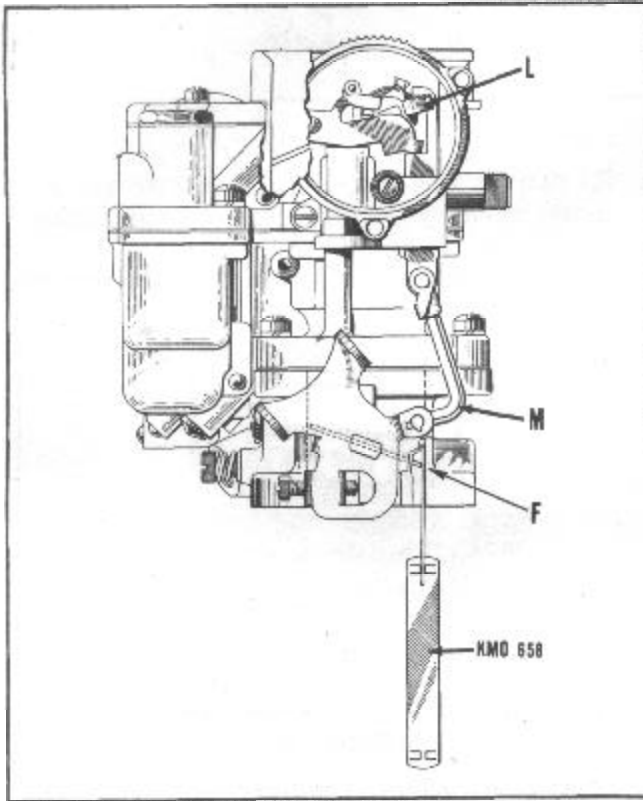

FIGURE 51
1. With the thermostatic coil housing, gasket and baffle plate removed, open throttle valve (F) Figure 51, and hold choke valve closed by holding down on choke lever (L).